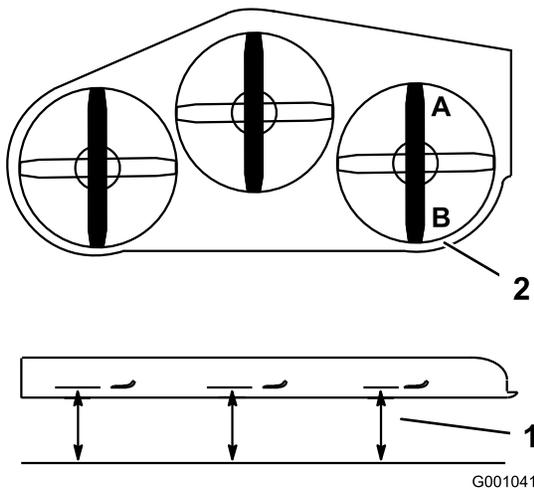

Figure 105
1. Position the **right** blade front-to-rear (Figure 105).
2. Measure the right blade at the **A** location, from a level surface to the cutting edge of the blade tip (Figure 105).
4. Measure the right blade at the **B** location, from a level surface to the cutting edge of the blade tip (Figure 105).
6. The mower blade should be 6 to 10 mm (1/4 to 3/8 inch) lower at position **A** than at position **B** (Figure 105). If it is not correct, proceed to the following steps.